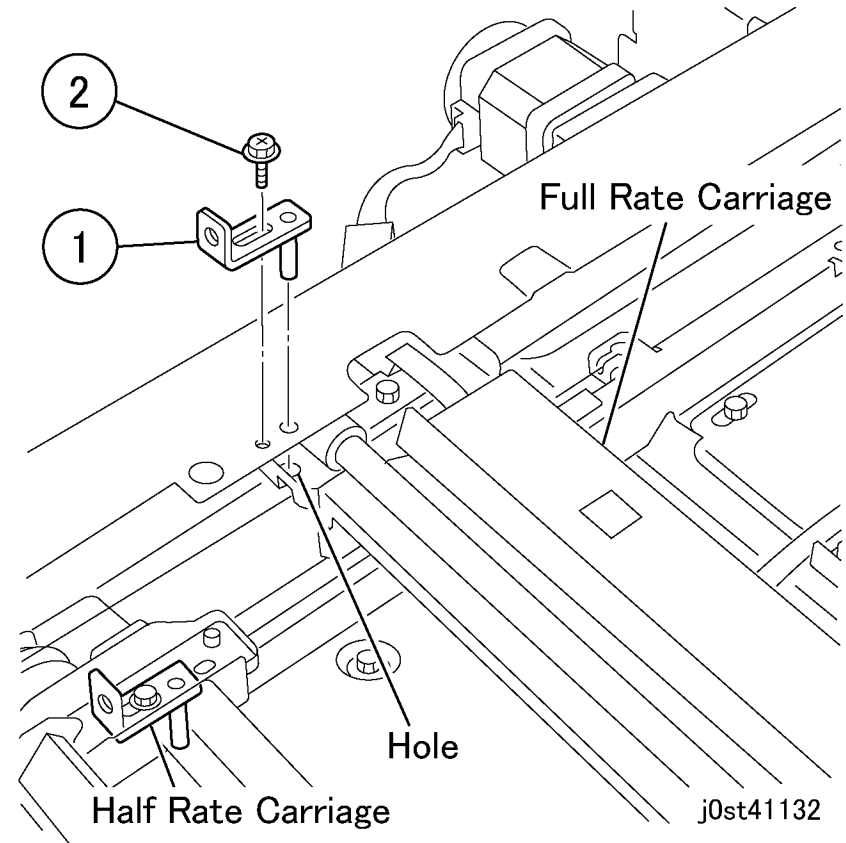

Figure 6 Position Adjustment of Full Rate Carriage
11. Remove the alignment pin from the front of the Half Rate Carriage and install at the rear of the Full Rate Carriage. (Figure 6). The rear tool for Half Rate Carriage remains installed.